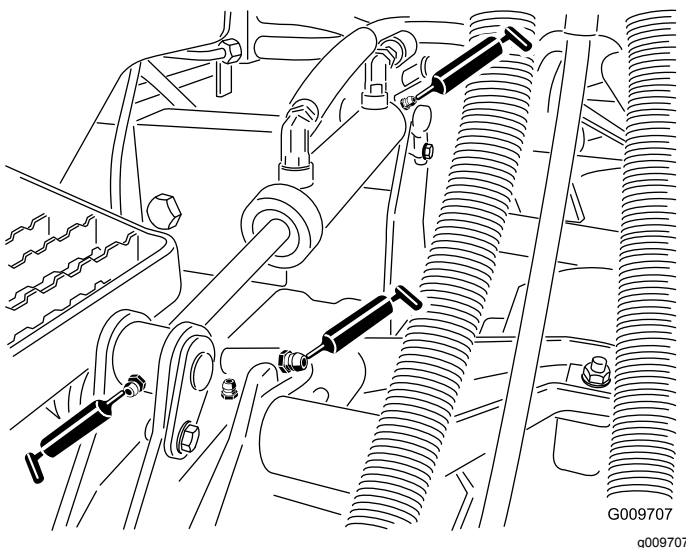

Figure 26
- Lift arm bushings (1 per deck) (Figure 26)
- Lift cylinder bushings (2 per deck) (Figure 26)